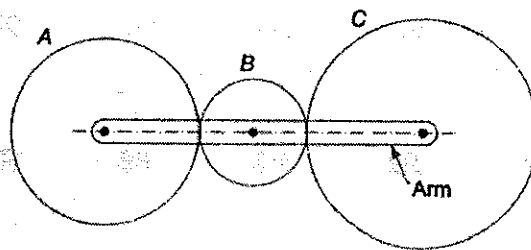

Figure: 2
b) In an epicyclic gear train shown in figure 2, the number of teeth on wheels A, B and C are 50, 25, and 52 respectively. If the arm rotates at 420 rpm ccw, find the speed of wheel C when A is fixed. [5+5]